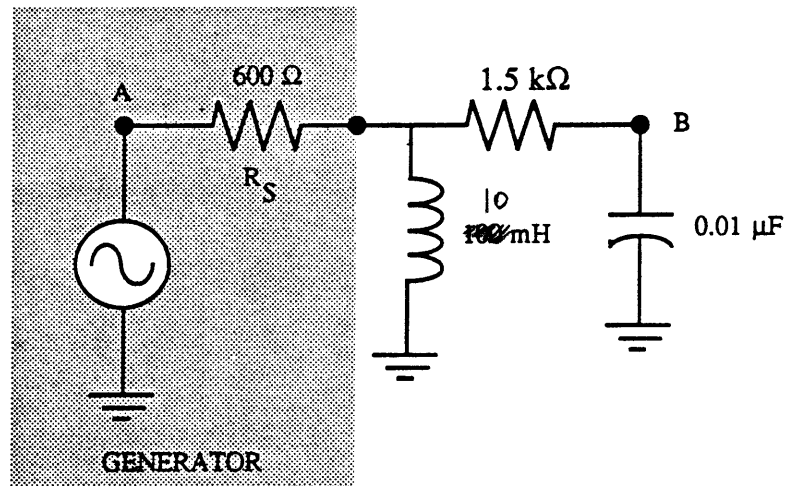

Figure 4.3 - Network for frequency response measurements
- (1) Using the scope, set the signal generator to produce a 10 V_{p-p} sine wave at 1 KHz with zero DC offset. Do not change the amplitude setting for the rest of this part. You can assume that the generator will produce a constant 10 V_{p-p} for all of the frequencies used in this part of the lab.
- (2) Build the circuit shown in Fig. 4.3. R_s is the internal output resistance of the generator.
- (1) Construct the circuit shown in Figure 4.3 where $R_{\text{probe}}=10\text{M}$ and C_{probe} is a 1.2-30 pF variable capacitor. This is the same circuit you built in Lab #3.
- (2) Set the generator to a 1 KHz square wave at maximum amplitude and zero DC offset.
- (3) Connect the probe input (point C) to point A. Observe what happens as you turn the variable capacitor a full 360 degrees.
- (4) Adjust the capacitor so that the tops and bottoms of the square wave are perfectly flat and horizontal. (Note that this is how you would adjust any compensated probe. Terminal C-7 on your scope is a square wave source provided for compensating probes.)
- (5) Remove the wire between points A and C and connect points B and C.
- (6) Record the displayed voltages with the generator set to a sine wave for the frequencies shown in Table 4.5.
- ① Make Bode plots of the phase and magnitude response of the circuits of Figures 4.3 and 4.4 using your data from Tables 1 and 2. Using a different color pen or pencil, add straight line approximations to each of the four graphs. Please draw all of your plots on graph paper.